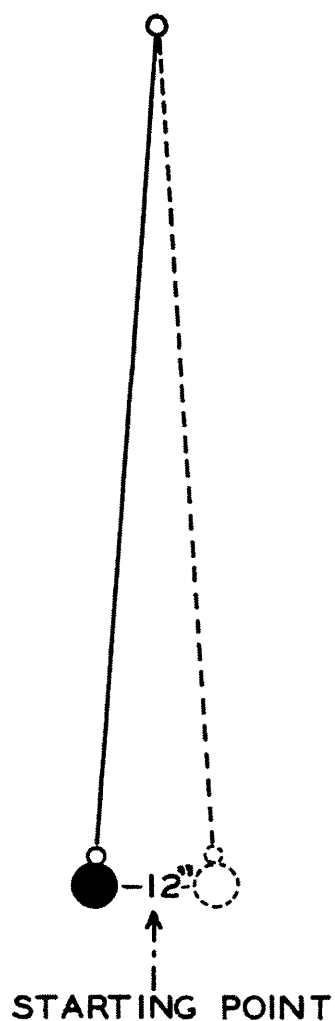
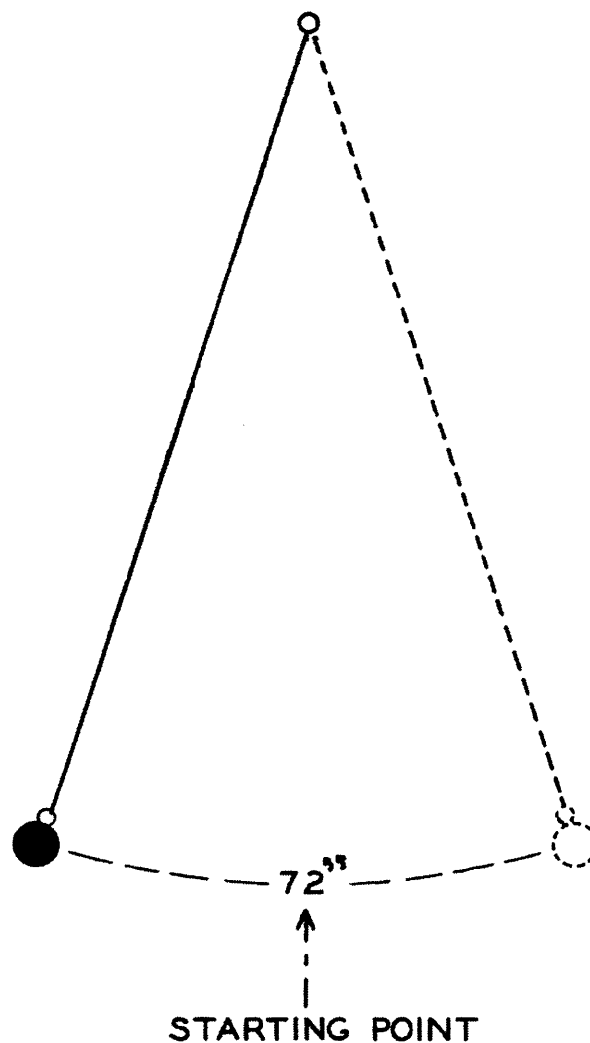

Fig. 18-3
Fig. 18-4
1. With the weight at rest, carefully pull weight back about six inches and then release as shown in figure 18-3.
3. Repeat steps 1 and 2 but this time pull pendulum back about 36 inches or more, figure 18-4.
figure 18-3, and the long arc of seventy-two inches, figure 18-4, is the same theoretically. However, for all practical work we would have to take into consideration the resistance of the air and in watches, friction of pivots, etc. Isochronal adjustments in a watch are made in order that the watch will have the same, or nearly the same rate whether the balance and hairspring are making a long or a short arc. The longest arc will be found when the mainspring is fully wound and these arcs get shorter as the mainspring unwinds.